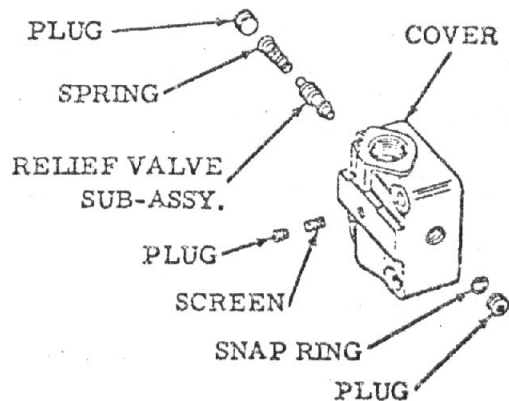

Figure 2
(1) Disassembly of Basic Pump--See Figure 2. If a mounting flange or foot bracket is used, remove it before dismantling the pump. Clamp the pump body in a vise (not too tightly), cover end up, and remove the four screws. Note the position of the cover port with respect to the body port before lifting off the cover and "O" ring.
(2) Remove the pressure plate and spring and note the position of the ring for correct reassembly. Lift off the ring and remove the locating pin. Separate the vanes from the rotor and remove the rotor from the shaft.
(3) Turn the pump body over and remove the shaft key and the snap ring which retains the outer bearing. Tap with a soft hammer on the splined end of the shaft to force the shaft out of the body. Support the bearing inner race and press the shaft out of the bearing. Pull the shaft seal out of the body with a suitable hooked tool and press out the inner bearing.
(4) Disassembly of Flow Control and Relief Valve Covers--See Figure 2. If a screen is used in the cover, remove the plug and pull out the screen. Do not remove the orifice plug unless it is necessary. Check whether there is a plug at each end of the relief valve bore. If the bore is blind, remove the plug and the snap ring to release the valve and spring as shown in the inset view, Figure 2. If the bore is through the cover, remove only the one plug to release the spring and valve. Leave the snap ring and the other plug in the cover.
(2) Assembly of Flow Control Cover--See Figure 2. If the cover has a through bore, insert the valve in the bore, small land first. Then install the spring and pipe plug. For models with the blind bore, first install the spring, then the valve, with the hexagon head end first. Follow this with the snap ring (being certain it is firmly seated in the groove) and the pipe plug. Install the screen and the plug which retains it.
(3) Assembly of Pump--See Figure 2. Begin assembly by pressing the shaft into the front bearing while supporting the bearing inner race. Next, press the inner bearing into the body, using a driver which contacts the outer race only. Be certain both bearings are firmly seated.
(c) Place the pressure plate on the locating pins and flat against the ring. Use a small amount of petroleum jelly or grease to stick the spring in the recess in the pressure plate. Carefully install the cover with the outlet port in the correct position. Tighten the cover screw to the torque shown in Figure 2. Turn the shaft through by hand to insure that there is no internal binding. Install the shaft key.